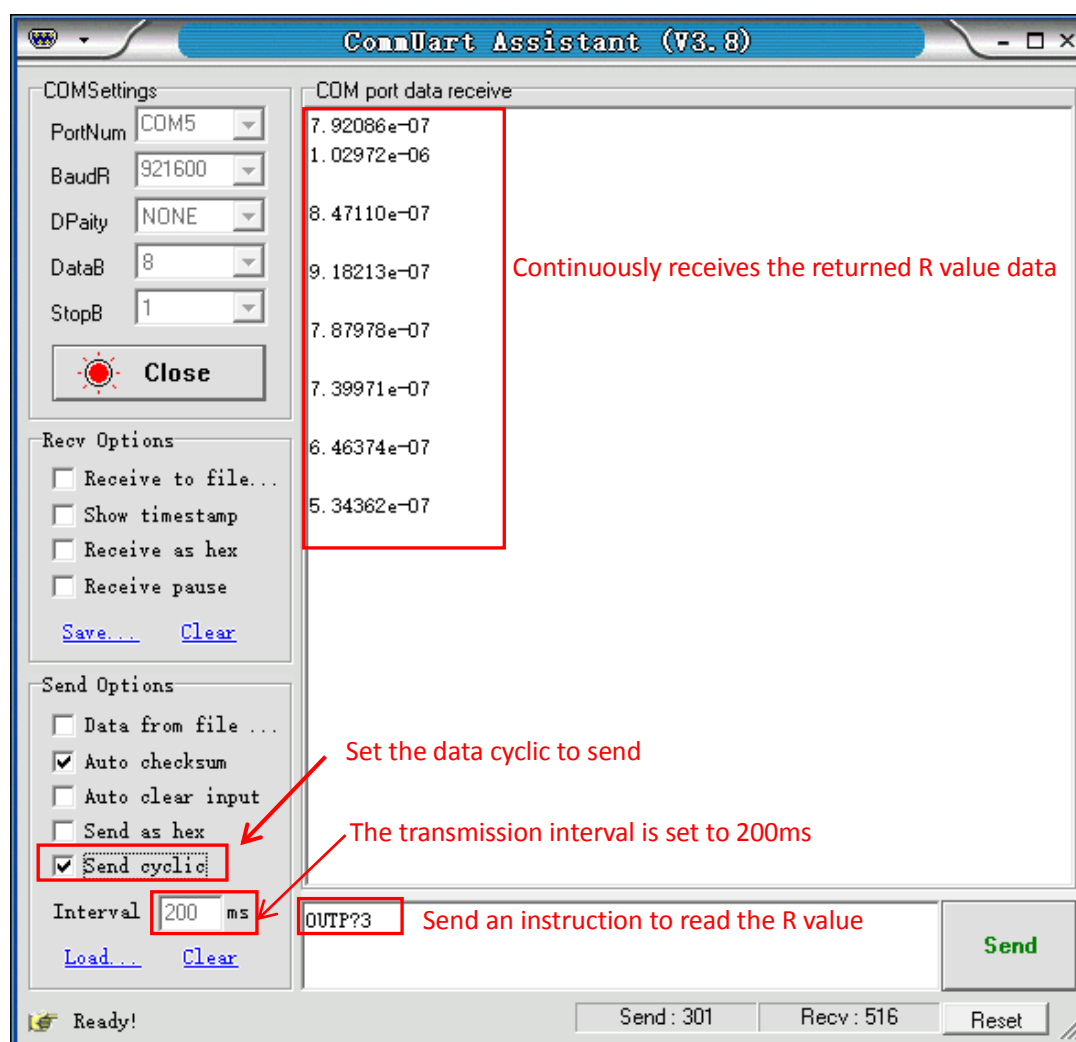
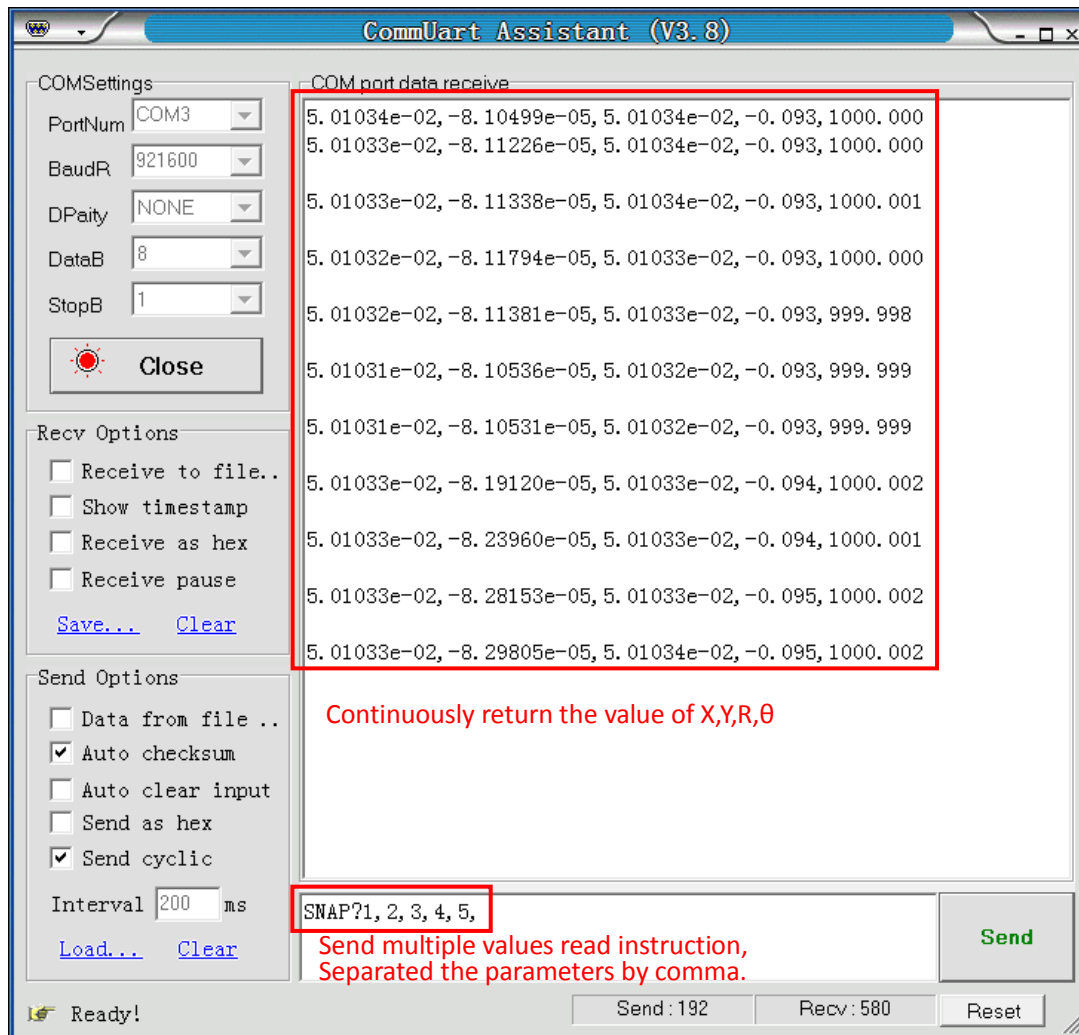

Fig.113 Read the single R value continuously
Fig.114 Read the Values of X, Y, R θ and Freq continuously
4) If you want to read the values of <X>, <Y>, <R>, < θ > and Freq continuously, you can set the transfer interval time as Fig.113 and Fig.114.